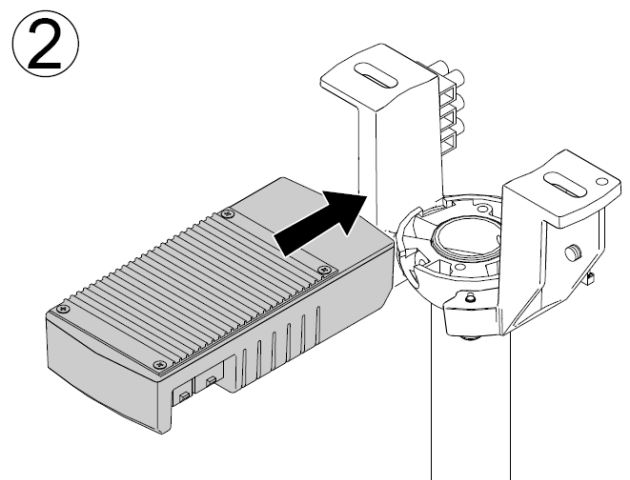

Fig. 6.2
2. Slot the receiver on top of the hanger by pushing through the mounting bracket. (Fig. 6.2)